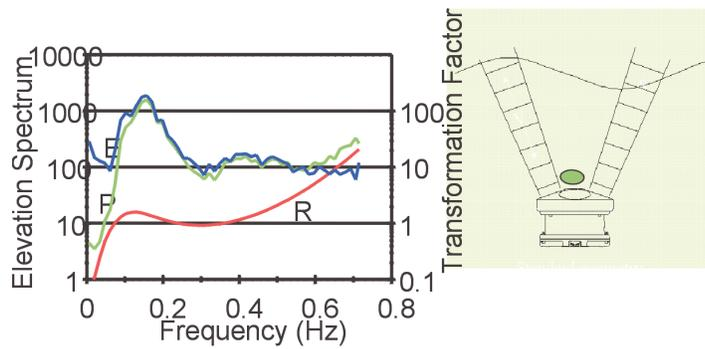

Figure 20. Height Spectrum – Pressure Sensor
- The pressure sensor derived spectrum is a traditional technique, but is limited because the measurement must be made on the bottom (see Figure 20, page 65).